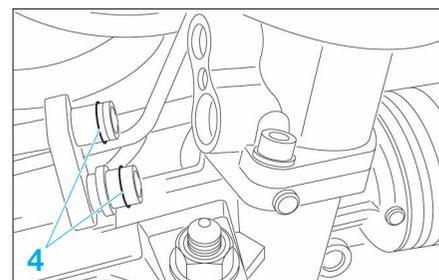

FIG. 20
- Poser des joints (4) neufs (Fig.20).